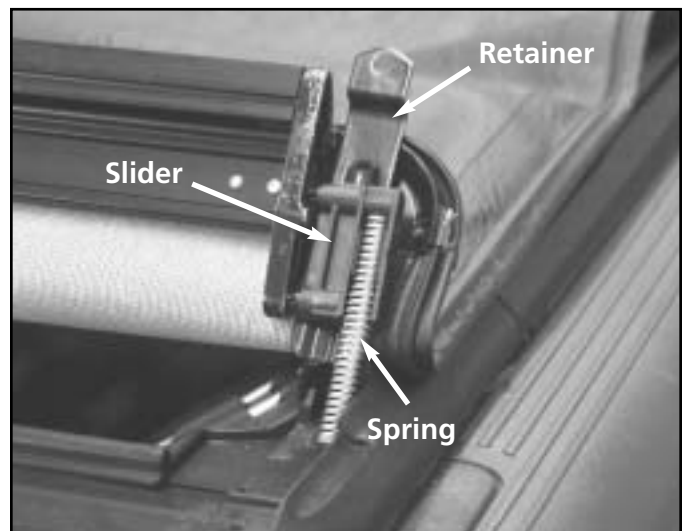

Figure S-16
3. Lift the cover up and back exposing the front rail. See figure S-16.
6. Move the cover back down onto the rail using care to set the springs into the guide area of the rail. Refer back to figure S-16.
7. Insert the slider retainers into the front rail over the slider spring and slider. Refer back to figure S-16.